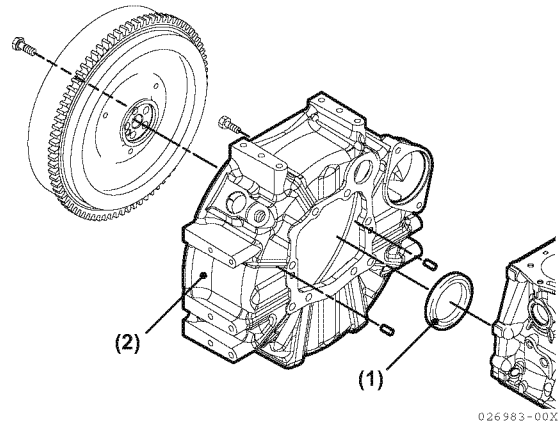

Figure 6-61
3. Remove the rear oil seal (**Figure 6-61, (1)**) from the flywheel housing (**Figure 6-61, (2)**).
4. Install a new seal in the flywheel housing (**Figure 6-61, (2)**) with the lip facing in away from the flywheel. Apply lithium grease to the lip of the seal.